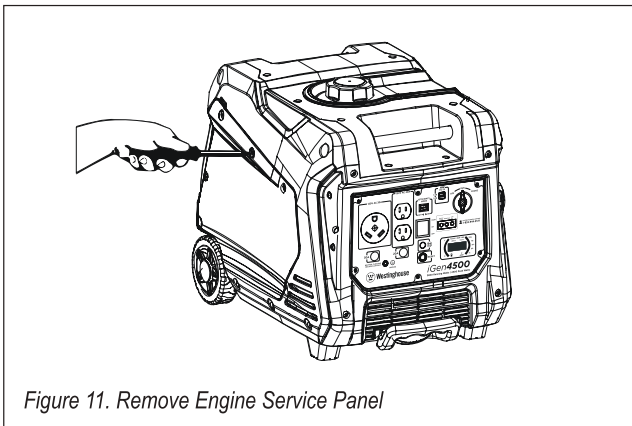

Figure 11. Remove Engine Service Panel
2. Remove the engine service panel to gain access to the air filter. (See Figure 11).
1. Remove the Engine Service Panel to access the carburetor (see Figure 11).
3. Remove the Engine Service Panel to gain access to the spark plug (see Figure 11).